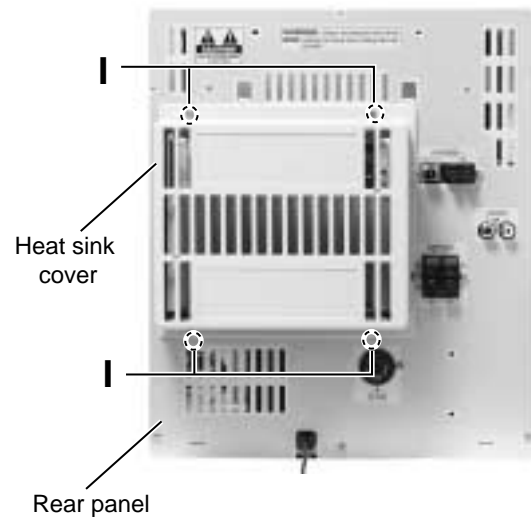

Fig.14
■ Removing the heat sink & amp. board (See Fig.14 and 15)